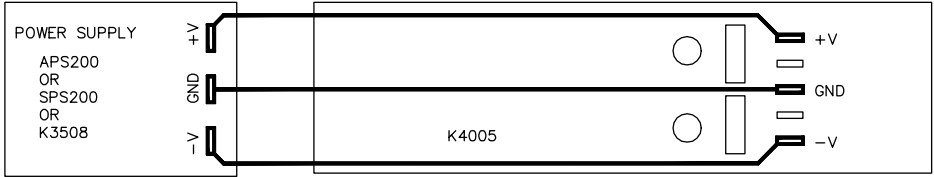

FIG. 7.0
- ❑ Connect a symmetrical power supply unit (possibly the APS200, SPS200 or K3508 module) of + and - 30 tot 45VDC to the positions GND (0V), -V and +V. See Fig. 7.0.